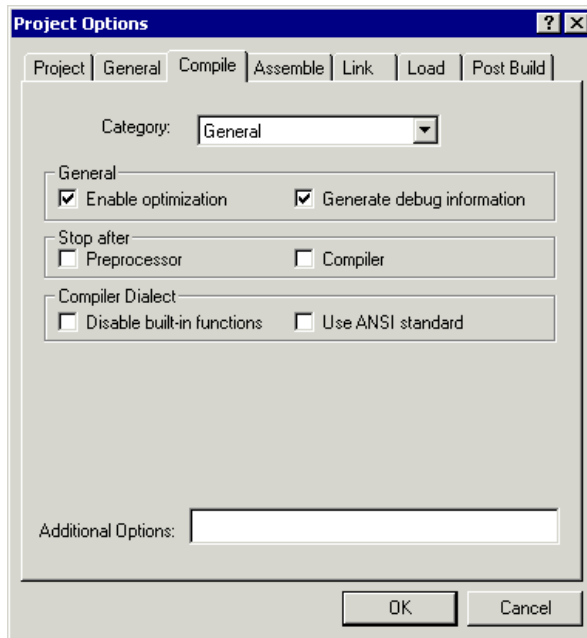

Figure 3-12. Project Options Dialog Box: Compile Tab Page
7. Click the Compile tab to display the Compile tab page, shown in Figure 3-12.